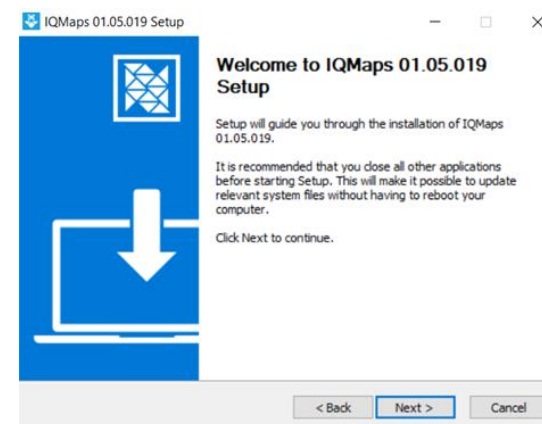

Fig. 5 IQMaps install step 1
2. Press the **NEXT** button of Fig. 5